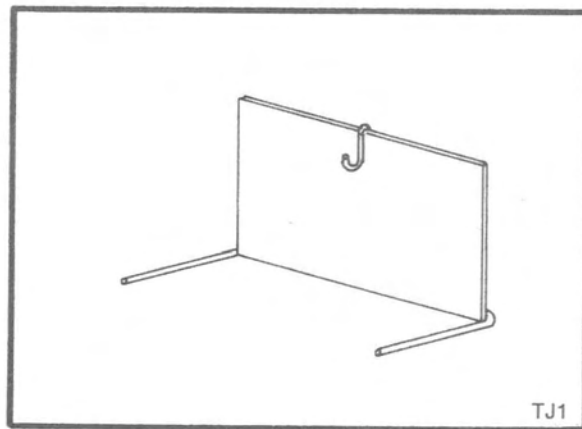

Figure 1
3. During warm up, use a stand with a protective guard that will prevent any objects being thrown from the machine and causing injury. Figure 1